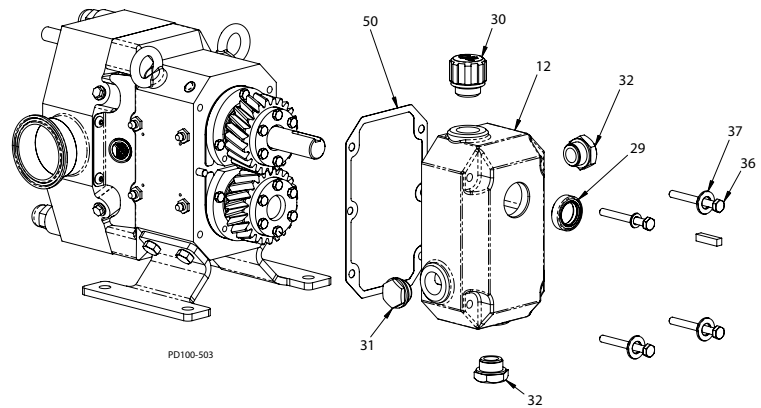

Figure 65 - Gear Cover Installation
1. Press the input shaft seal (Figure 65, item 29) into the bore of the gear cover (item 12).
2. Place the gasket (item 50) over the dowel pins in the gear case.
4. Install the cap screws (item 36) and washers (item 37) and tighten them evenly.
5. Install the oil plugs (item 32) and level indicator plug (item 31) into the appropriate locations for the pump mounting position.
6. Fill with oil and install the breather plug (item 30). Table 13 provides oil capacity by pump size and mounting position. The oil level should reach the center of the level indicator.